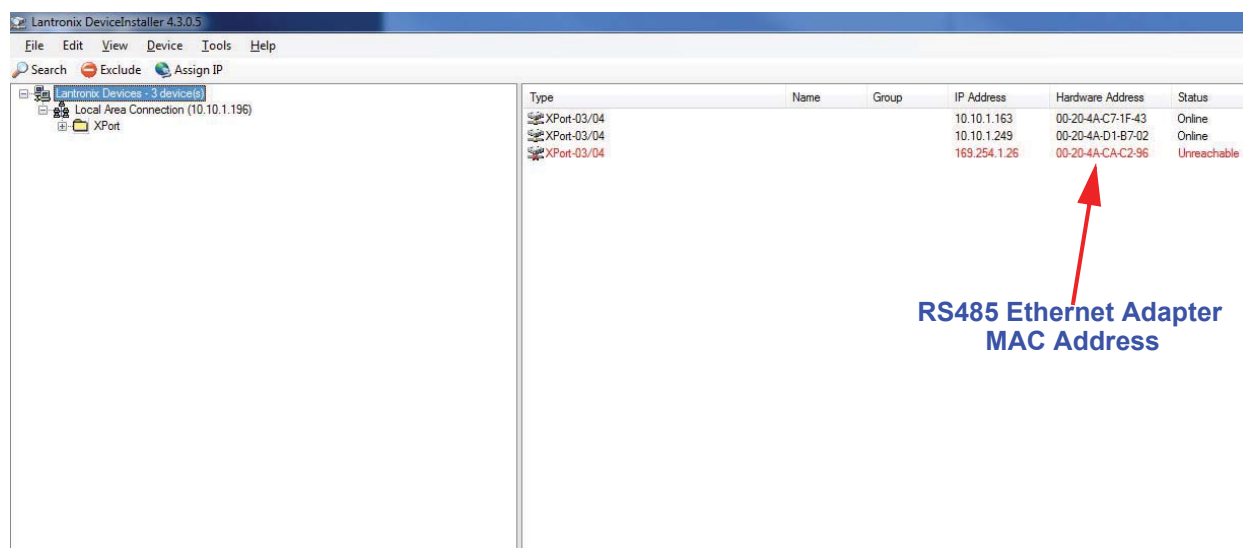

Figure 4-6 Detecting Attached Devices
1. Start the Lantronix DeviceInstaller program. DeviceInstaller will automatically begin searching for attached devices. The **Hardware Address (MAC Address)** for the RS485 Ethernet Adapter will be displayed as shown in Figure 4-6.